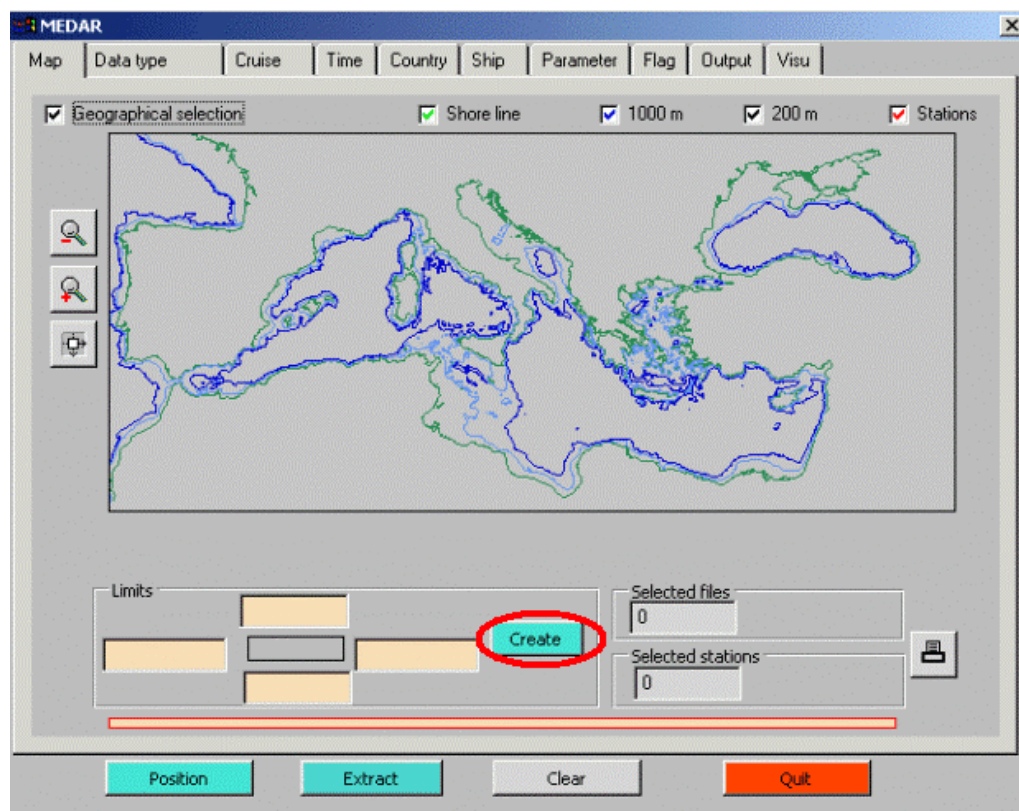

Fig 4. MEDAR Map window
This window is to perform geographical selection of the data (Fig.4).
- by entering manually the coordinate and then press the «Create » button. The input format for the latitude is N/S99 99.99 and for the longitude E/W999 99.99 in degrees, minutes and hundreds of minutes (Fig. 4).